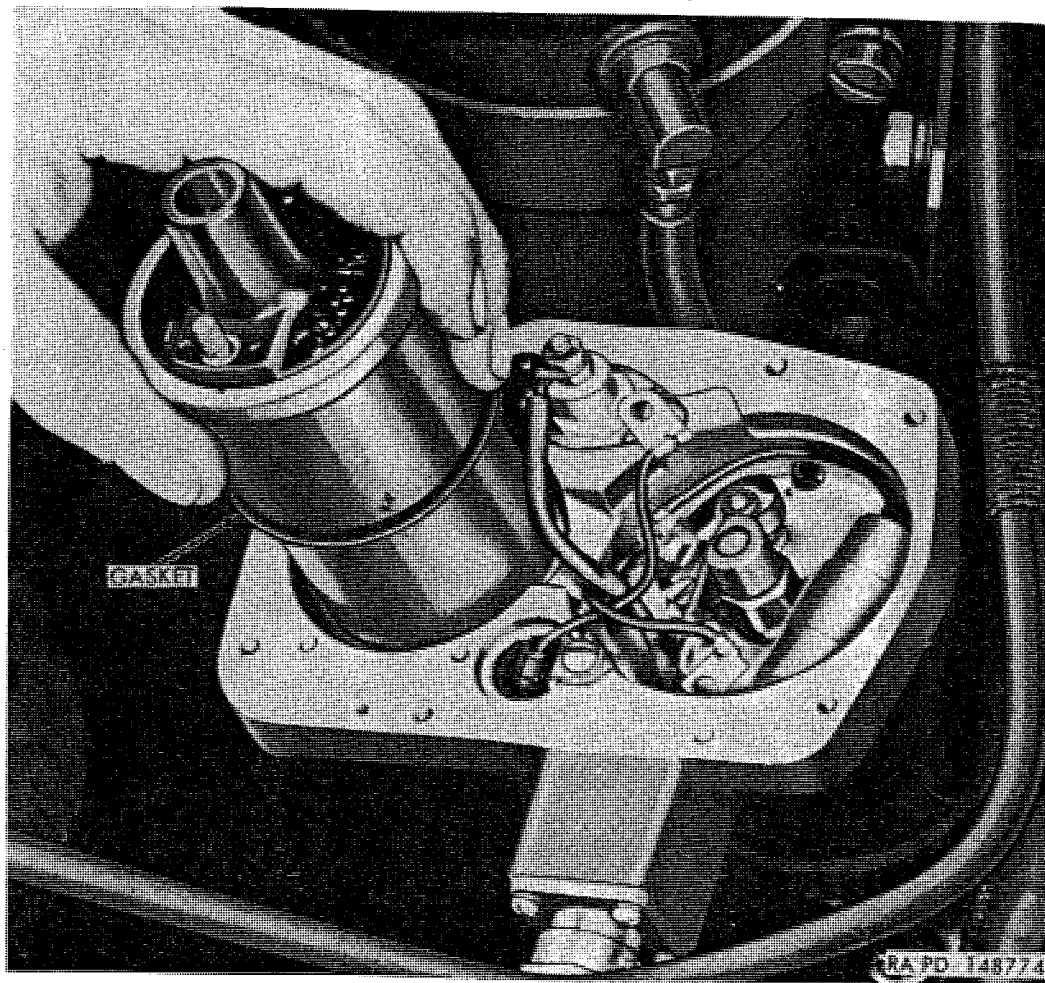

Figure 121. Removing or installing ignition coil.
f. *Ignition Coil Replacement* (fig. 121).
- (1) *Removal.* Remove distributor cover and gasket. Disconnect cables from coil terminals. Remove four screws attaching coil retaining plate to distributor housing, and remove plate. Lift ignition coil out of housing and remove gasket. Discard gasket.